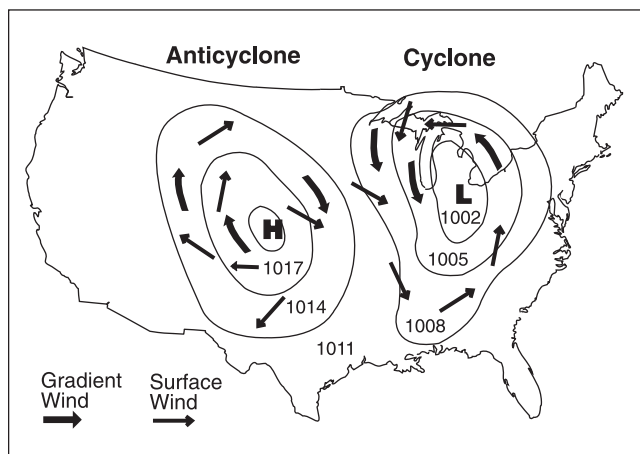

Figure 6-3. Gradient and surface wind
- Due to surface friction (up to about 2,000 feet AGL), surface winds do not exactly parallel the isobars, but move outward from the center of the high toward lower pressure. See Figure 6-3.